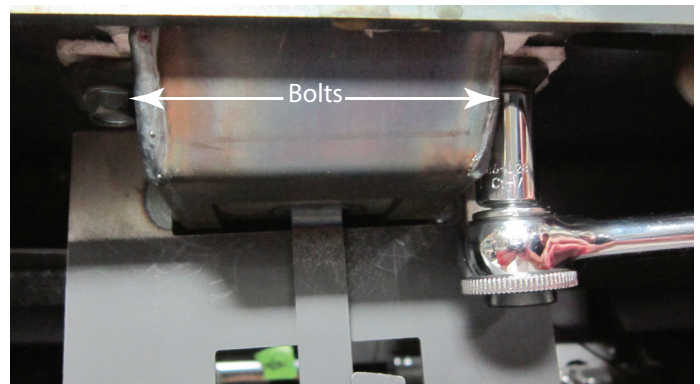
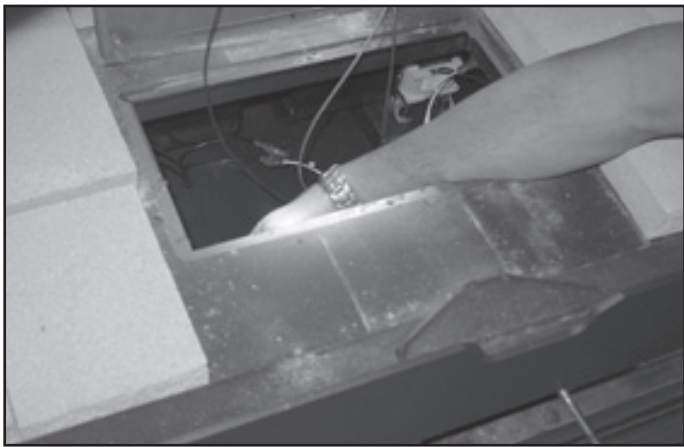
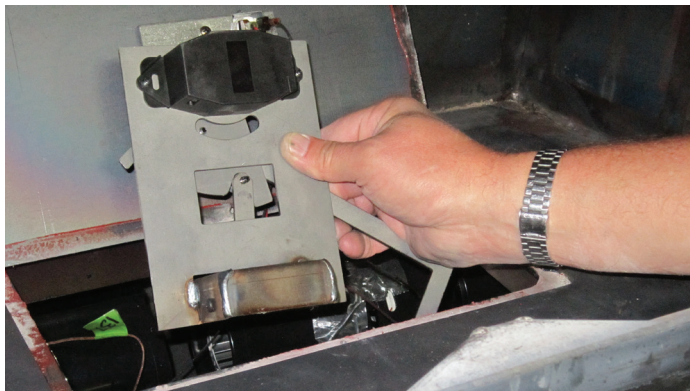
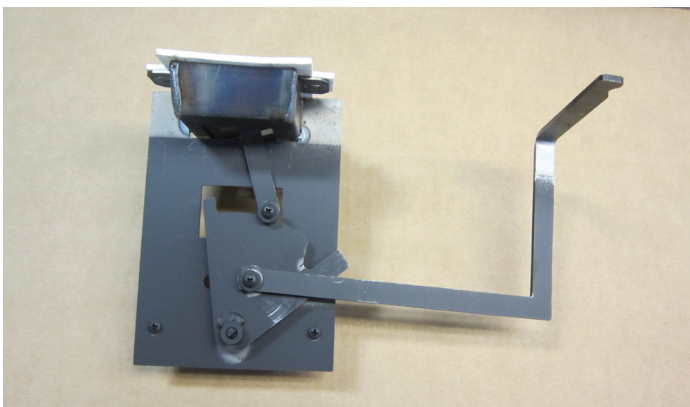

Figure 4.13 Remove Bolts
Figure 4.14 Hand in Access Door
Figure 4.15 Removing Timer Assembly
Figure 4.16 Timer Assembly with Gasket
- Remove the (2) 1/4-20 bolts using a 3/8" wrench. See Figure 4.13. Let the timer assembly down. Place your hand into the access door (Figure 4.14) in the floor of the fireplace. Grab the timer assembly and rotate it up through the access door. You will be looking at the back side of the assembly. See Figure 4.15.
- Insert the new timer assembly (see Figure 4.16) into the access door with the back side towards you. Please note the correct position of the linkage arm in Figure 4.15.